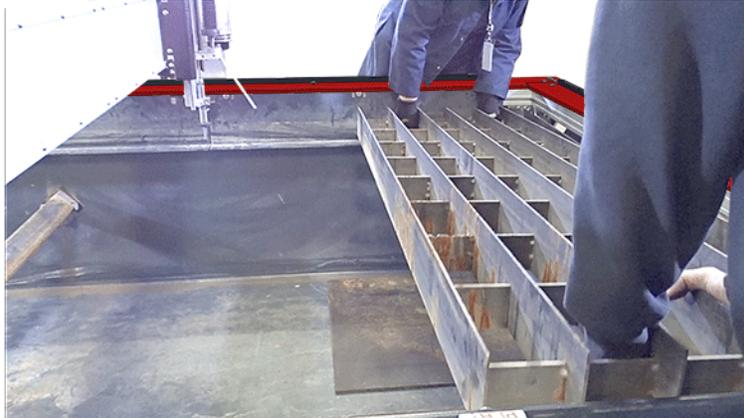
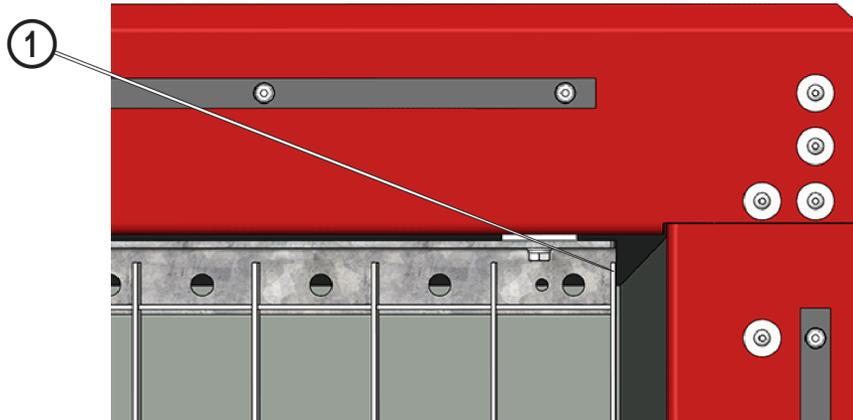

Figure 15
Figure 16
2. Place the first **slat grate** flush with the end of the **grate supports** [1] at the **controller wall** (Figure 15) and (Figure 16).